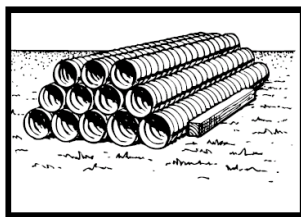

Fig E1
- 3.1 Stockpiling shall be done temporarily on a Flat Clear Area as per Fig. E1.